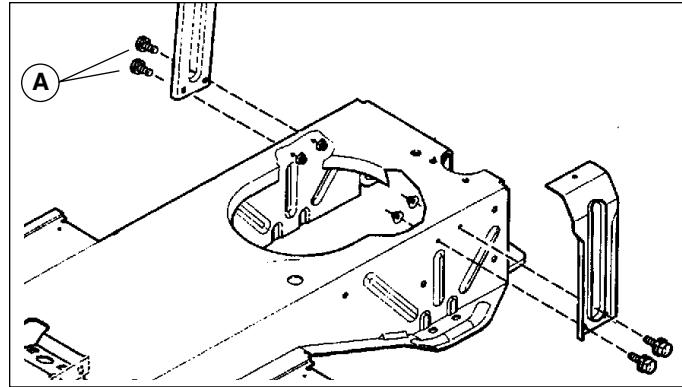

Figure E-7. Seat Supports
4. Loosen the capscrews (A, Figure E-7) attaching the seat support to the tractor frame.